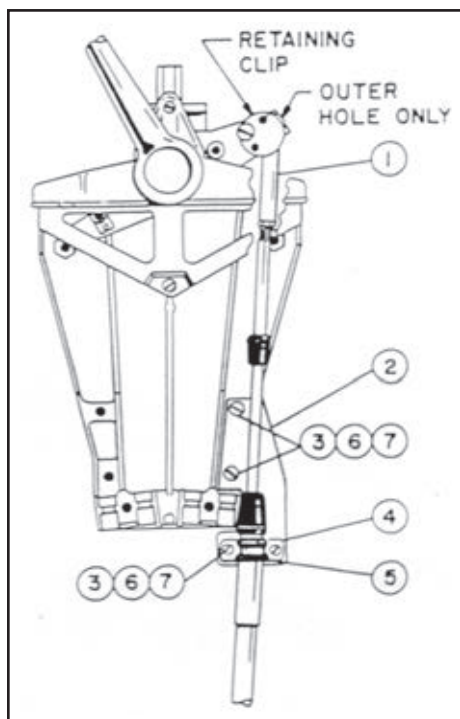

Figure 8.
STEP 3. Attach bracket (2) as shown in Figure 8, using screws (7), lock washers (3) and nut (6).
STEP 4. Screw cable terminal (1) into cable rod approximately $\frac{5}{8}$ ". Tighten cable rod nut against cable terminal (1). Insert cable terminal into slot in control arm and lock with pin, retaining clip and screw. **(NOTE: - Lubricate pin first.)**
STEP 5. Attach cable hub to bracket as shown using clamp (4), shim (5), screws (7), lock washers (3) and nuts (6).